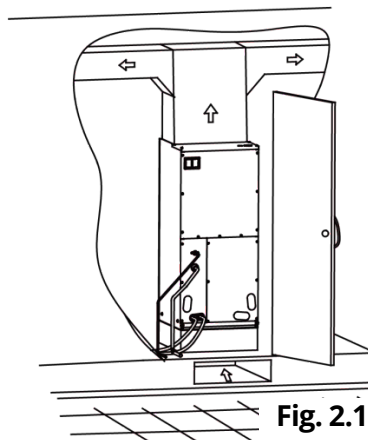

Fig. 2.1
***DO NOT*** install the air handler in enclosed areas, such as garages, utility rooms or parking areas. Carbon monoxide producing devices (such as an automobile, space heater, gas water heater, etc.) should not be operated in enclosed areas such as unventilated garages, utility rooms, or parking areas because of the danger of carbon monoxide (CO) poisoning resulting from exhaust emissions. If a furnace or air handler is installed in an enclosed area such as a garage, utility room, or parking area, and a carbon monoxide producing device is operated therein, there must be direct ventilation to the outside. Adequate ventilation is necessary to avoid the danger of CO poisoning which can occur if a carbon monoxide producing device continues to operate in an enclosed area. If these warnings are not followed, carbon monoxide emission can be (re)circulated throughout the building from the air handler causing serious illness including permanent brain damage or death.
- If air handler is installed as shown in Fig. 2.1, the air handler should be concealed in a specific room or space and make sure the air handler is not accessible to the general public.